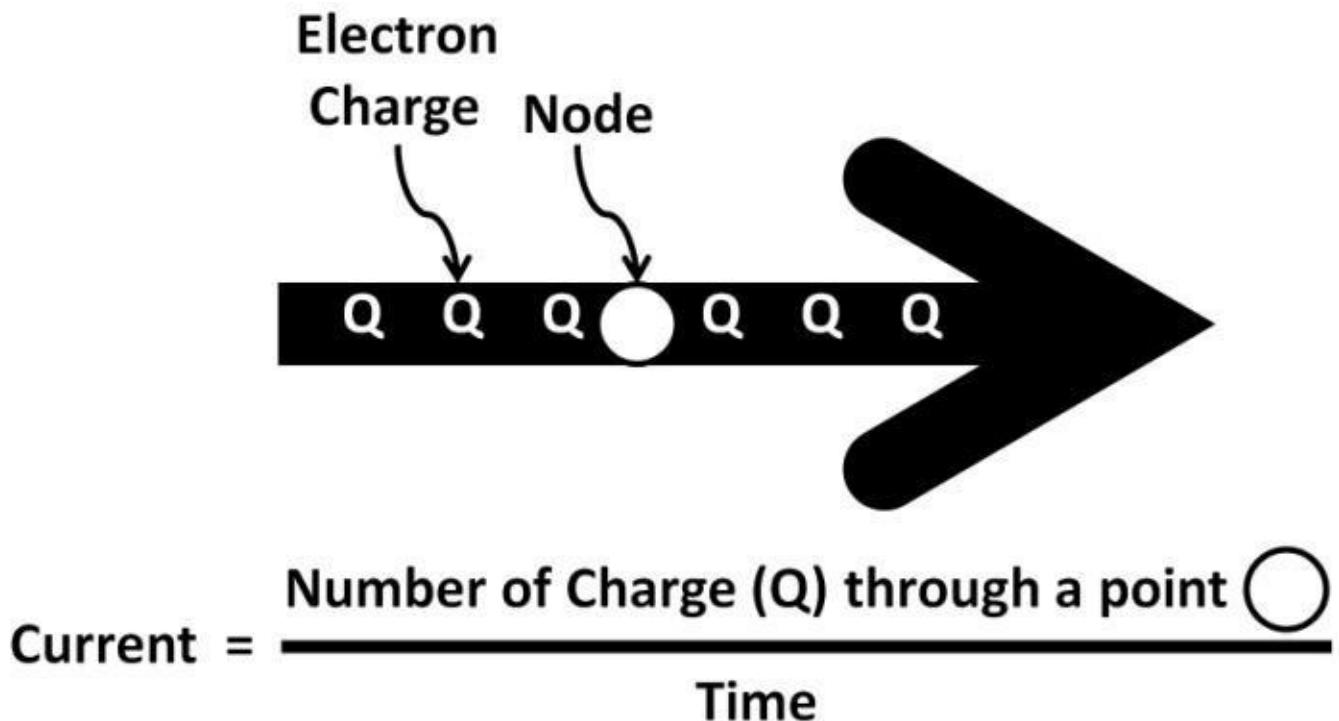

Figure 1.0: $\Delta Q / \text{time}$
Electrical current is quantified as change (Δ or delta) of electron charge (Q) with time. Think of it as flow rate in plumbing. measure of charges (ΔQ) flowing through a point (node) with time (see figure 1.0). Current's unit is amperes (A) with "I" being its symbol.